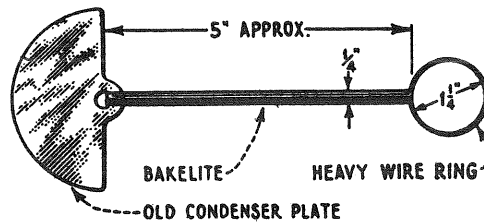

Figure 9—Tool for testing electrical alignment of gang tuning condensers
- (a) Procure or construct a tool as illustrated in Figure 9.